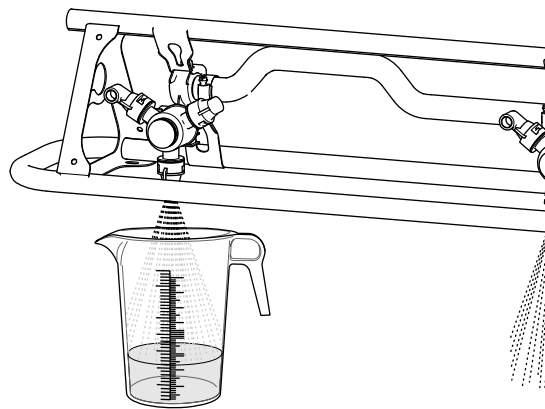

Figure 51
5. Catch the water from the sprayer nozzle until the sprayer flow shuts off (Figure 51).